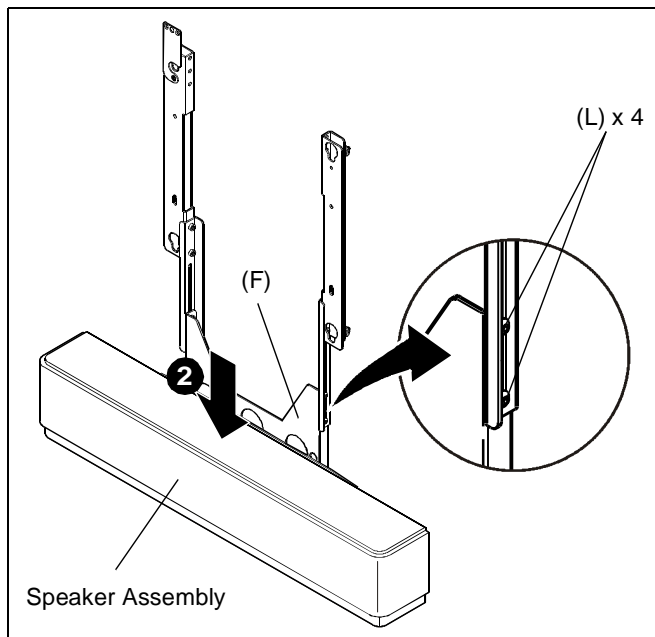

Figure 11
2. While supporting speaker assembly, loosen four button head cap screws (L) securing right and left bottom speaker brackets (D and E) to center speaker bracket (F) and move speaker assembly to lowest position. (See Figure 11)